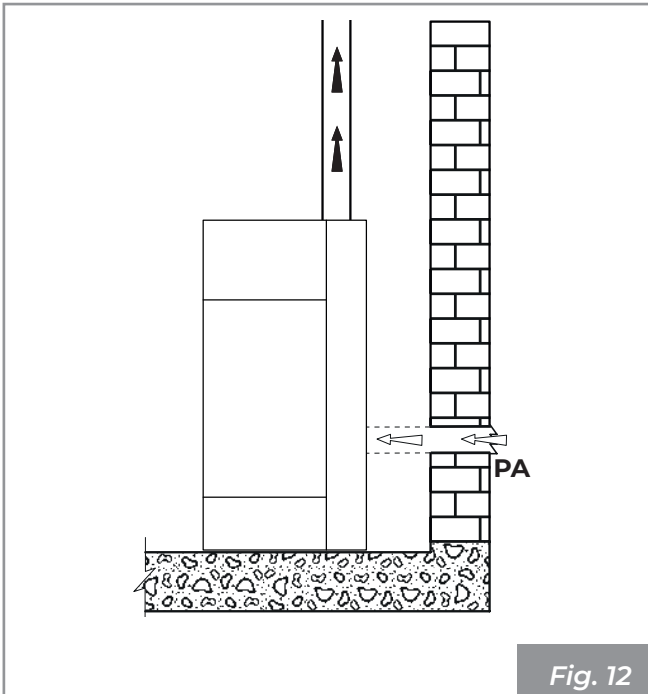

Fig. 12
- it can come from the installation room or suitable adjacent rooms (**Fig. 12**)
Create the air intake on the wall (**Fig. 12 - PA = Air Intake**), and leave the appliance to withdraw the room air, making sure to connect the section of corrugated pipe on the air inlet pipe, if supplied, fixing it with the strap and folding it slightly downwards to prevent any resonance effects.